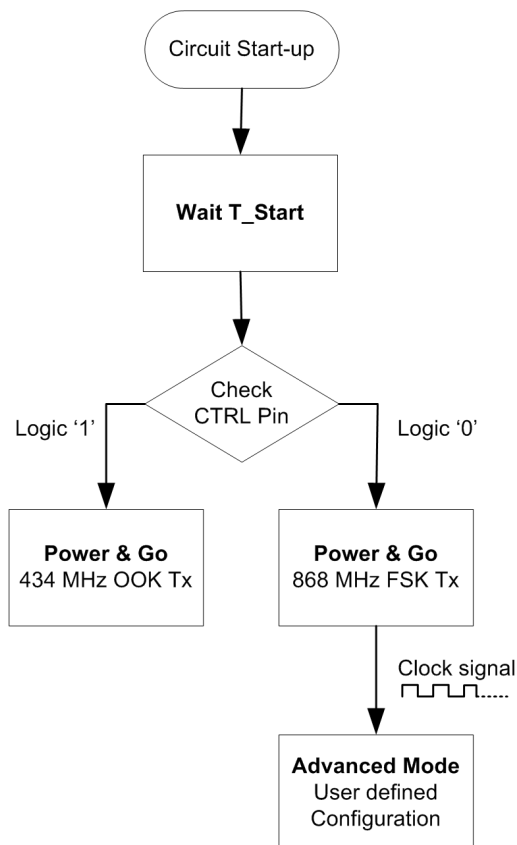

Figure 3. SX1240 Mode Selection
The SX1240 has two application modes. These are selected depending upon the load presented to the Control pin (6) at power-on of the device, as shown on Figure 3. By connecting the Control pin to logical '0' or '1' the Power & Go mode is selected. A full description of operation in this mode is given in Section 3.1. By presenting a logical zero to the Control input, Advanced Mode can be accessed by subsequent clocking of the control pin, in conjunction with the Data pin (2) permits programming of the SX1240 configuration register and manual control of the transmitter. For more information on Advanced Mode operation please consult Section 3.2. The diagram below summarises the mode selection process.
Advanced mode can be accessed as described on Figure 3. Programming is performed via a two wire interface (TWI) formed by CTRL and DATA pins.
When powering up the circuit (microcontroller and SX1240), the logic level of the CTRL pin is sampled after  $T\_START$ , as described on Figure 3. During  $T\_START$ , the microcontroller IO driving the CTRL pin must be configured as an output, driving the CTRL pin to the desired state.